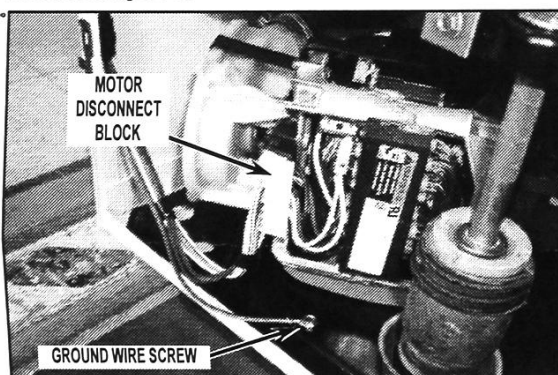

FIGURE 8
11. Disconnect the Harness Motor Disconnect Block from washer motor and remove screw holding ground wire to machine base. See *Figure 8*.